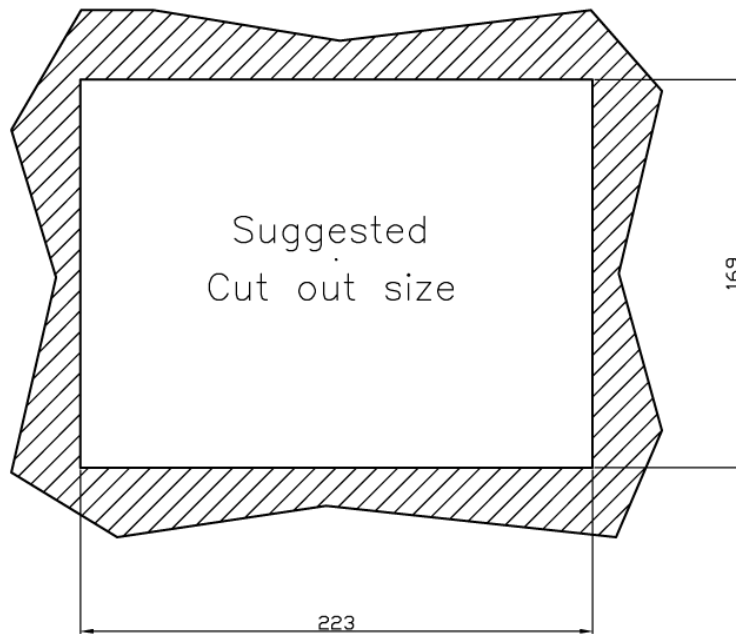

Figure 2-14: AFL-08B-N270 Cutout Dimensions (units in mm)
- Step 2:** Cut out a section from the panel that corresponds to the rear panel dimensions of the panel PC. Take care that the panel section that is cut out is smaller than the overall size of the metal frame that surrounds the panel PC but just large enough for the rear panel of the panel PC to fit through (**Figure 2-14**).